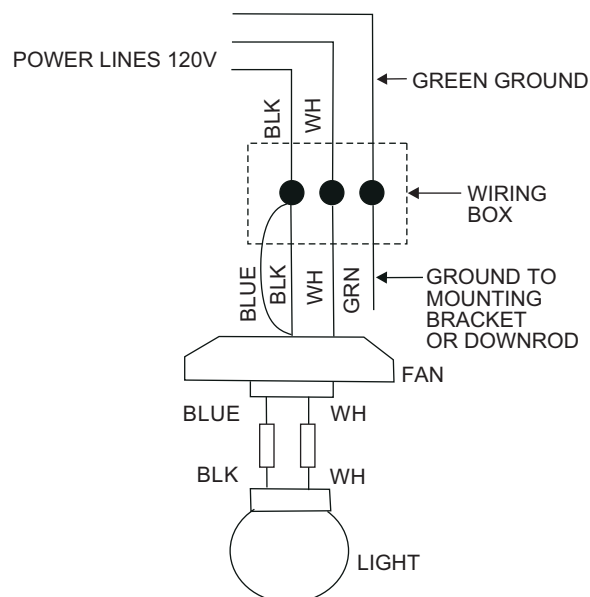

Figure 10
Step 1 Connect the fan supply (black) wire and light supply (blue) wire to the black household supply wire as shown in Figure 10.